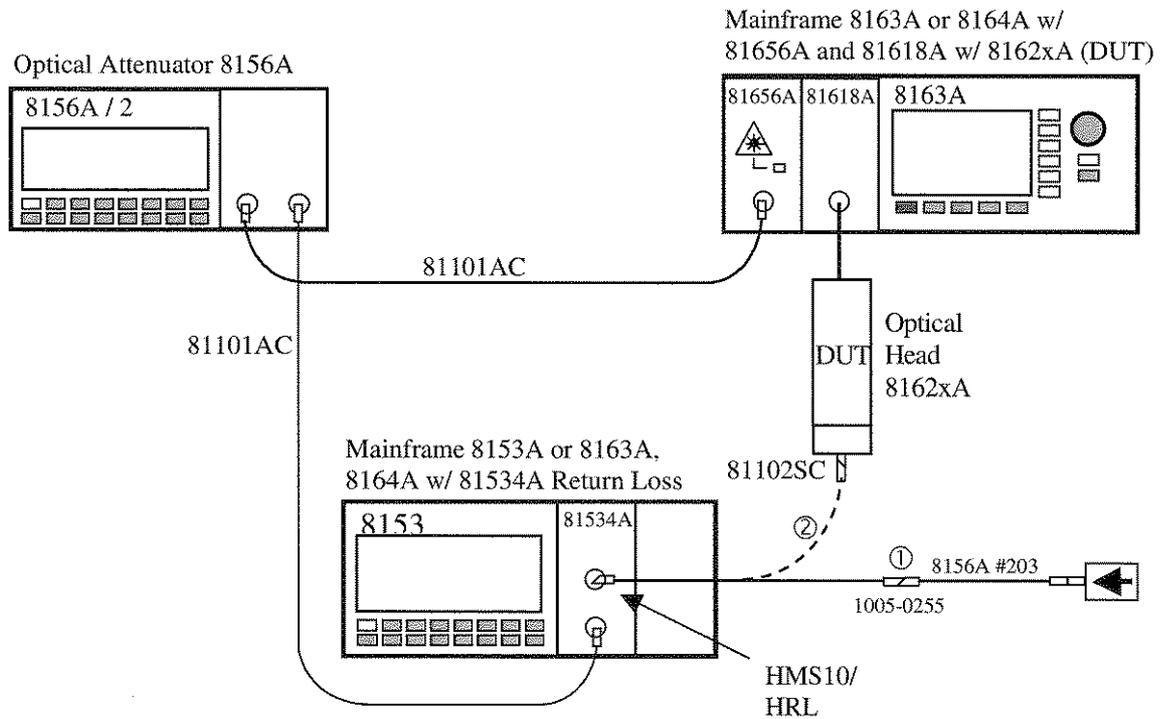

Figure 6 Return Loss Measurement Setup
- 1** Connect the equipment as shown in Figure 6/①. Alternatively, you can use a clean and undamaged straight fiber end as a reference reflector.
- 12 Connect the DIN-connector of the 81102SC patchcord to the sensor module as shown in Figure 6/②.